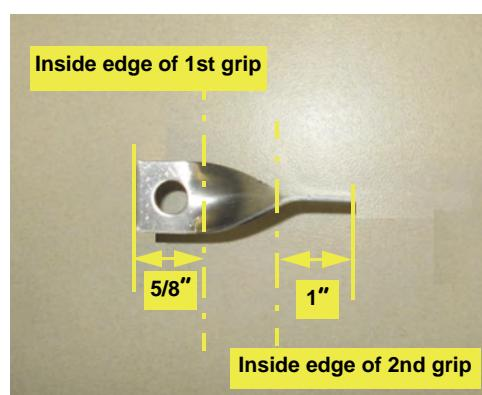

Figure 1d: Twisted bracket (not to scale)
- The inside edge of your second grip is $1"$ from the recently cut end (Figure 1d - not to scale).